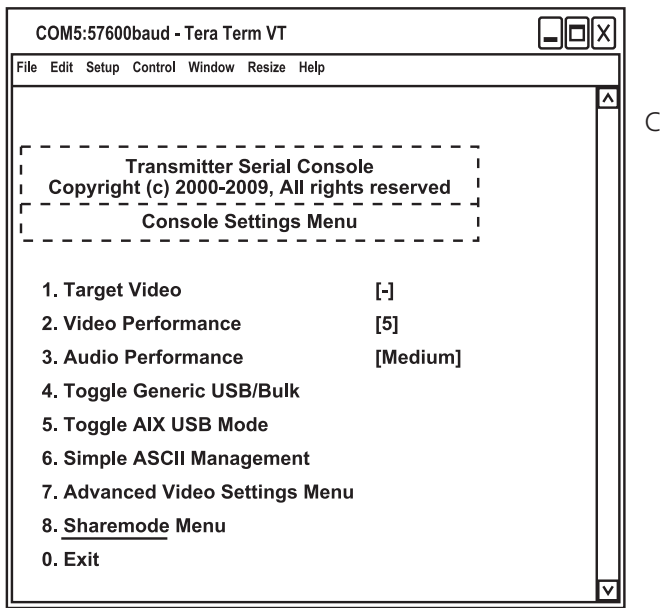

Figure 4-29. Transmitter Console Settings Menu.
- 2. Press "7" to access the Console Settings Menu and press "Enter." The Console Settings Menu (see Figure 4-29) will display: